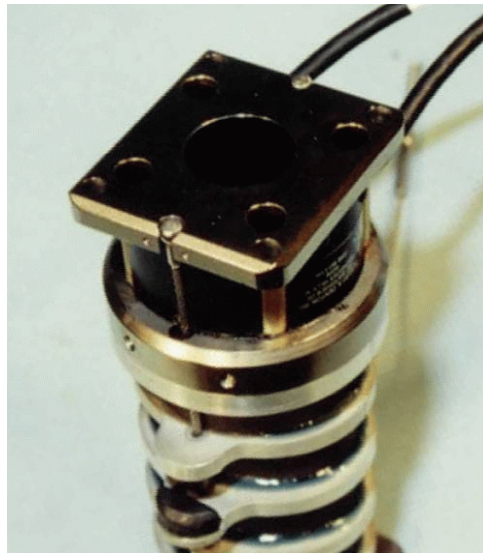

Figure 5.5- Proper placement of cables in lower neck load cell
5. Pass the front and rear neck cables through the slot in the front and back of the lower neck load cell bottom plate and pull the ball ends of the cables up into the cable retaining holes on the bottom of the load cell as shown in **Figure 5.5**.